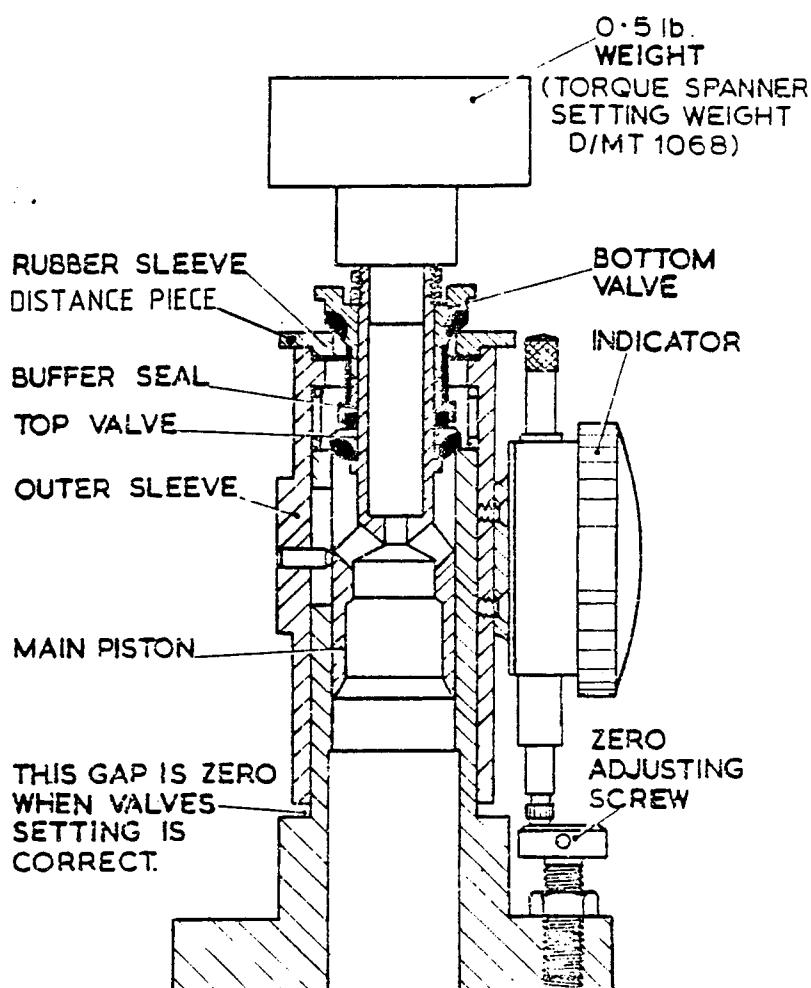

Fig 3 Checking rig for poppet valve
9.3 Place the checking jig distance piece over the bottom valve as shown in Fig 3, so that the largest diameter of the distance piece is towards the bottom valve.
9.7 Mount the assembly in the jig, as shown in Fig 3, and place the weight in position.